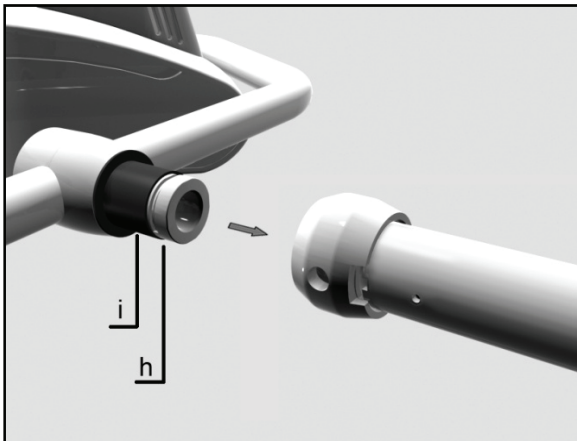

Figure 3
5.  Make sure the plastic bearing (i) is on the yoke and there is grease in the groove (h). The connectors are not shown in figure 3.